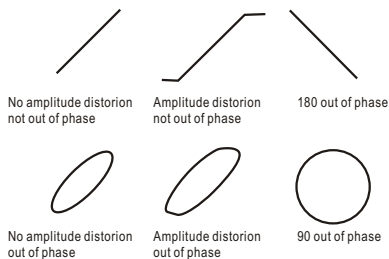

Fig. 17 Typical X-Y Phase Measurement Display
(Refer to Fig. 17)
5. If necessary, repeat step 3, readjusting the channel 1 and 2 gain controls for a suitable viewing size. Some typical results are shown in Fig. 17